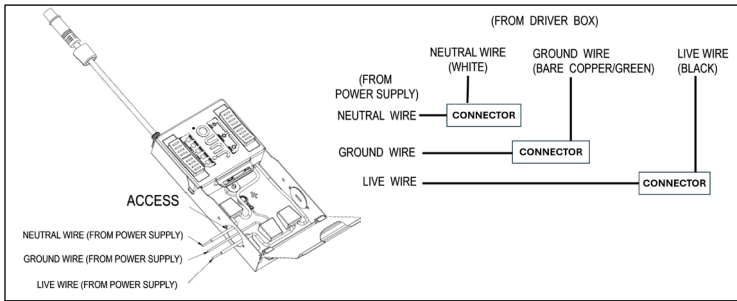

Figure 2
- Connect black wire to live wire, white wire to neutral wire, and green wire with ground (as shown) and secure using wago connector. Close the cover of the box. (Figure 2)